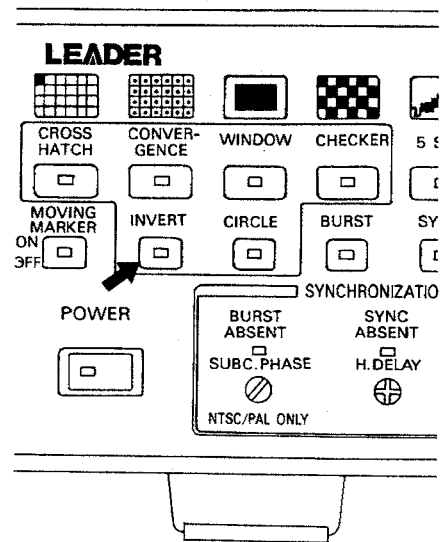

Figure 4.4
4.2.3 Black-and-White Inversion of Crosshatch, Convergence, Window and Checker Patterns (See Figure 4.4)